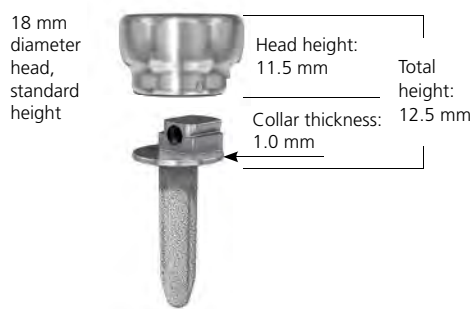

Figure 3
- **The shortest construct is obtained with the 18 mm diameter head, standard height (Figure 3).**